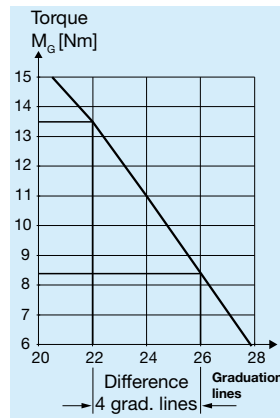
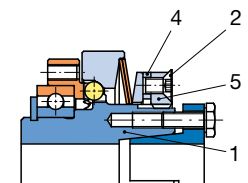

Fig. 4 (The diagram only serves as an example)
Fig. 8
EAS®-NC size 02 (Fig. 8 and Fig. 4):
- Loosen the locking screw (2).
- Grease the contact surfaces on the adjusting nut (5), the locking ring (4) and the hub (1).
- Set the adjusting nut (5) by hand to the contact on the cup spring (9).
- Continue to turn until the four notches on the circumference of the adjusting nut (5) and the notches in the locking ring (4) align.
- Turn the adjusting nut (5) further using a face wrench to the number of graduation lines which equal the required torque (Fig. 4, number of graduation lines in the Adjustment Diagram). The 4 notches on the circumference of the adjusting nut (5) and on the locking ring (4) must be in the same position.
- Paint both set screws (8) with Loctite 243 and screw them into the adjusting nut (5).